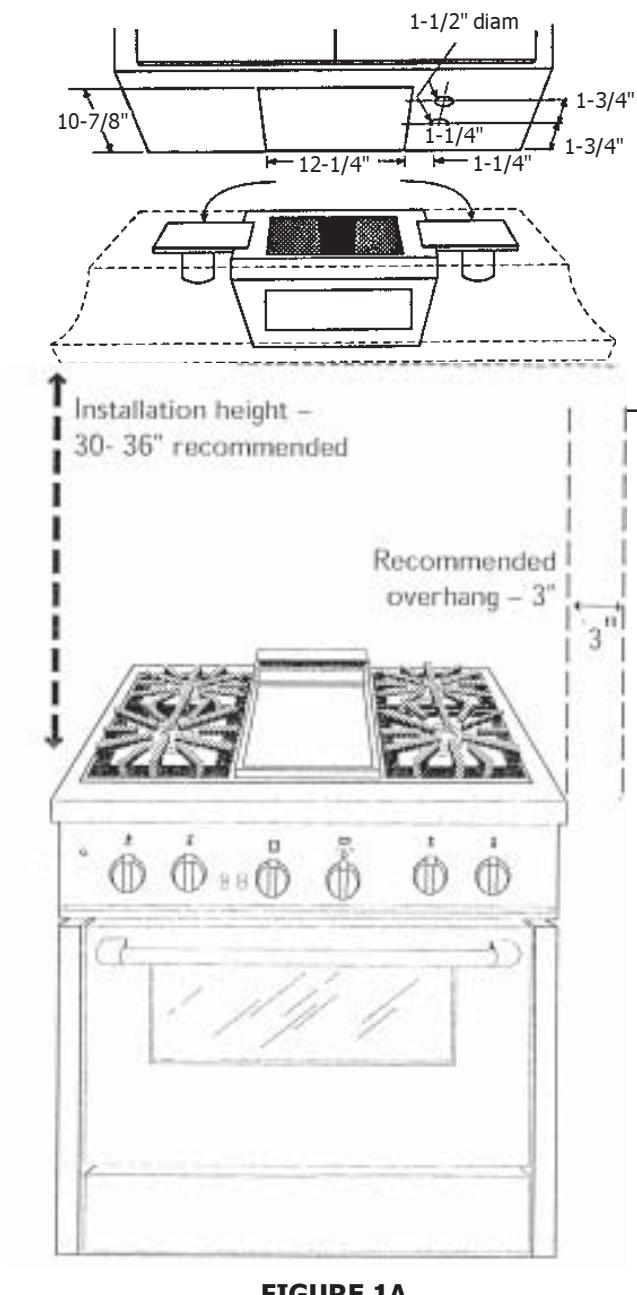
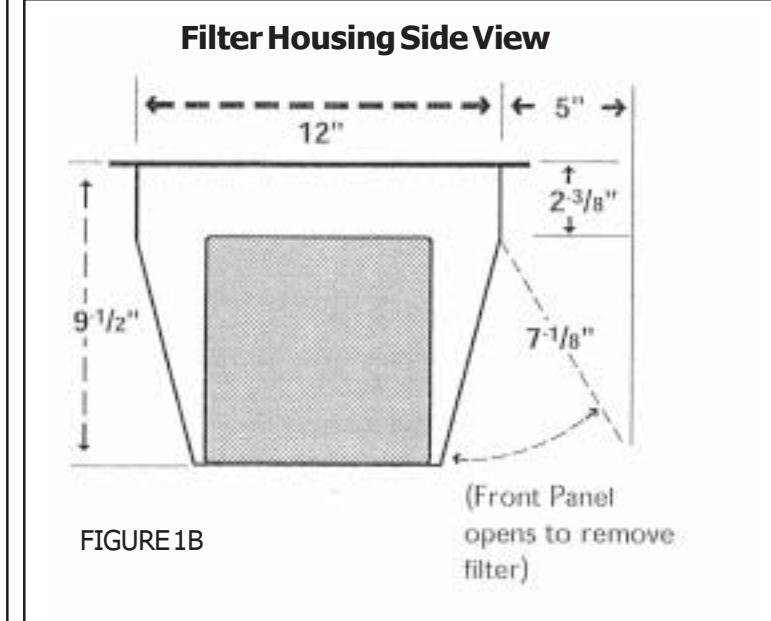

FIGURE 1A
FIGURE 1B
1. The VCH36/VCH54 are designed to be installed in a custom hood as shown in Figure 1A. Design of the hood must meet all building code regulations and is the responsibility of the contractor. For optimal performance, the hood should overhand the cooking surface and be installed at a height between 30-36 inches above the cooking surface. Clearance in the hood is needed for opening the front filter housing door to remove the filter for cleaning (See Figure 1B).